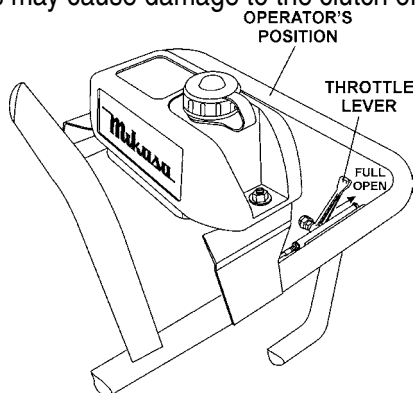

Figure 12. Throttle Lever (Full Open)
1. To start the rammer tamping action, move the throttle lever (Figure 12) quickly from **IDLE** (close) to the **FULL OPEN** position. **DO NOT** move the throttle lever slowly as this may cause damage to the clutch or spring.